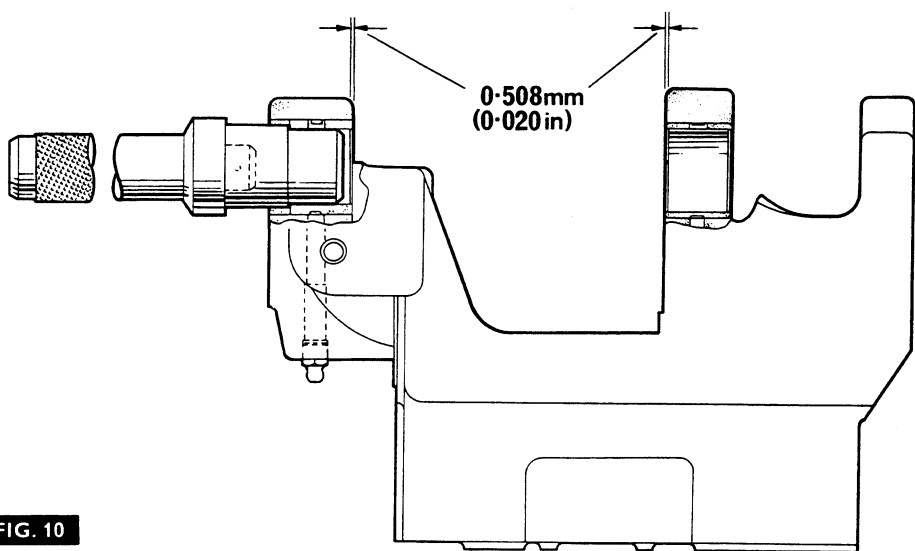

FIG. 10
- 2. Fig. 10. Drive out the two bushes from the axle support using the bush remover MF 322 and the 550 handle.